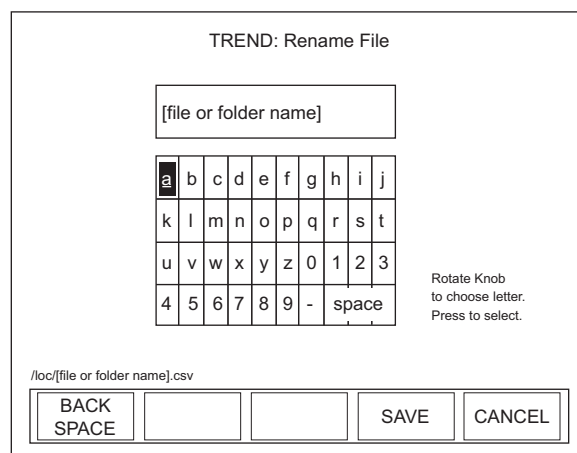

Figure 44. TREND: Rename File or Folder
2. Press the RENAME soft key to display a screen similar to the one shown in Figure 44.